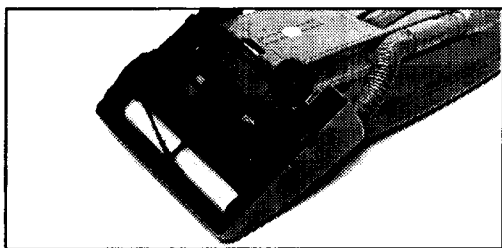

Fig. 15
2. Turn vacuum cleaner over, exposing the underside [Fig. 15].